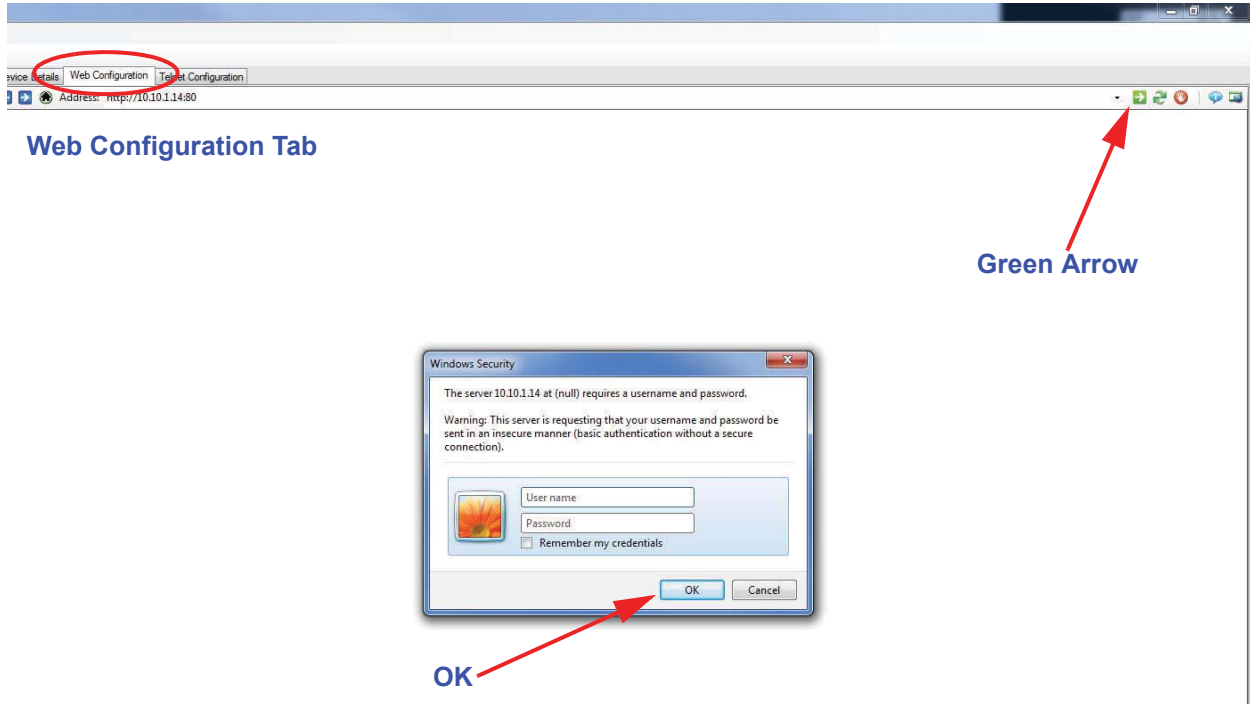

Figure 4-7 Web Configuration Tab
- Select OK without entering a username or password. See Figure 4-7.